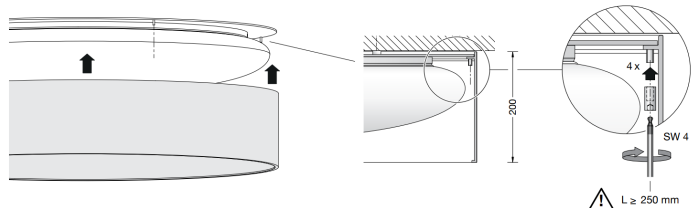

Figure 3
8. Attach guard to mounting plate by aligning with the 4 threaded pins and screw it tight through the gap with the enclosed cap nuts [Figure 3]